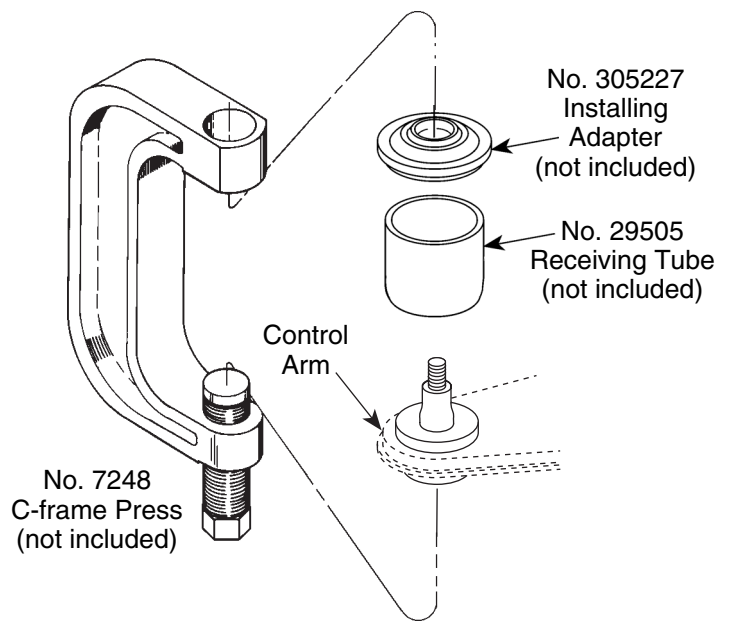

Figure 2
3. Assemble the ball joint press components as shown in Figure 2, and tighten the forcing screw. Check the alignment of all tooling and components, and continue tightening the forcing screw until the ball joint is firmly seated.